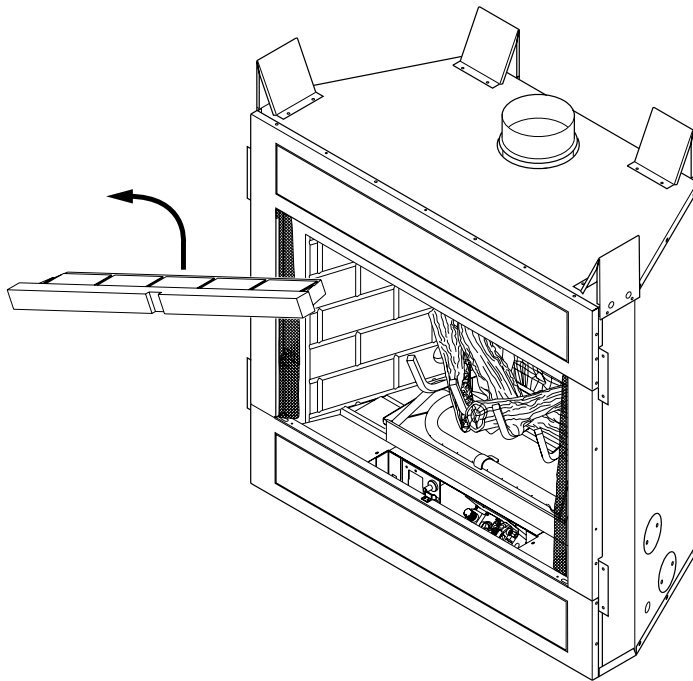

Figure 12 - Removing Front Refractory Access Panel
1. Remove the front refractory access panel by lifting up and angling out of the firebox opening (see Figure 12).